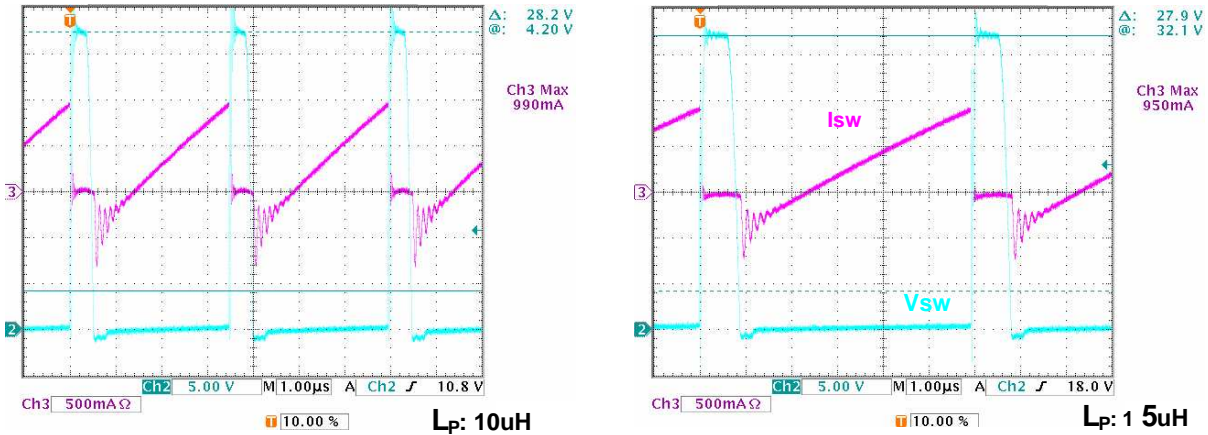

Figure 8. I_{PEAK} Delay Depends on Primary-Side Inductance
A 200-ns delay occurs between the detection of I_(SW) exceeding the I_{PEAK} value to the turn off of SW. Therefore, there is a difference between the peak current detection value and the actual peak current value as shown in Figure 8. The difference depends on the primary-side inductance and the battery voltage (see Equation 4).